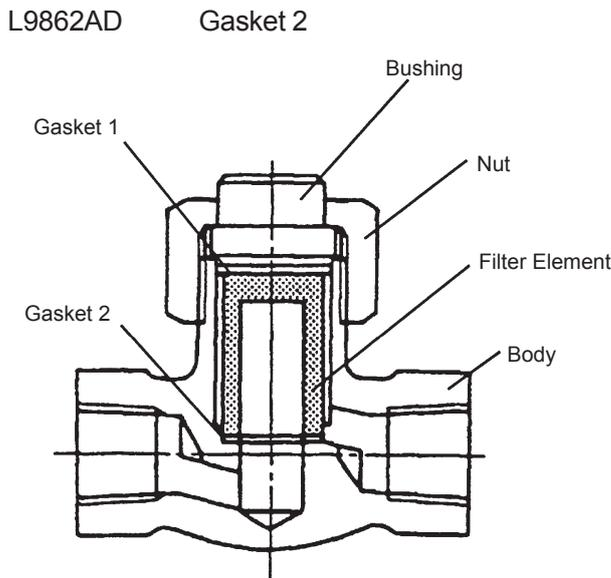

Figure 6.45
- (5) Remove the cap nut (see Figure 6.45).
- (6) Replace the internal filter element and the gaskets with a new one.
- (7) Firmly tighten the cap nut.
- (8) Confirm that there are no leaks.